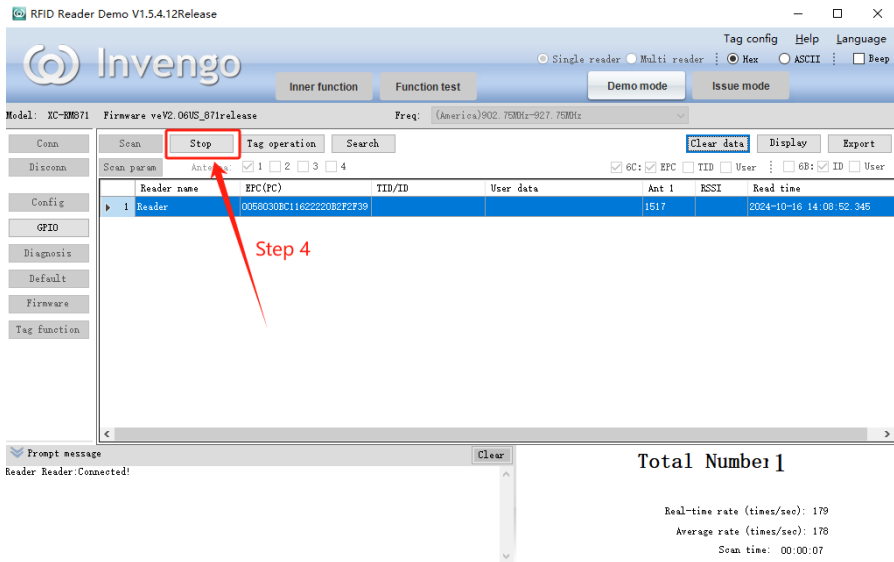

Figure 5-12 Inventory Operation Diagram 2
- 4) Figure 5-12 shows the interface for inventorying tag information. Click “Stop” to halt the inventory process.